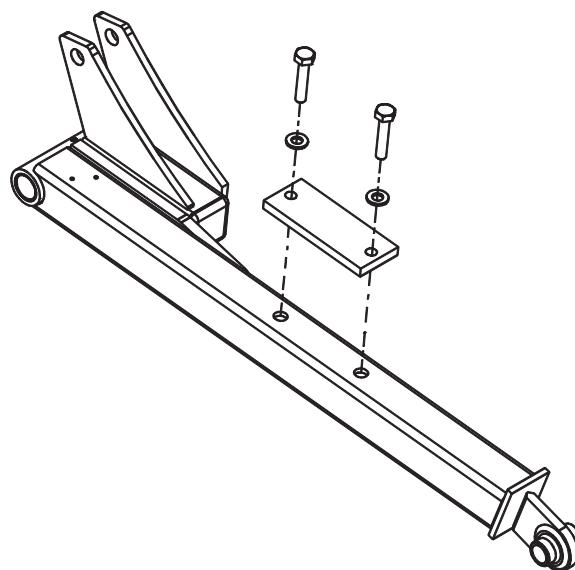

Fig. 1
2. Remove the plastic pad from the top of the left hand lift arm. Retain the pad and fixings for future use (Fig. 1).